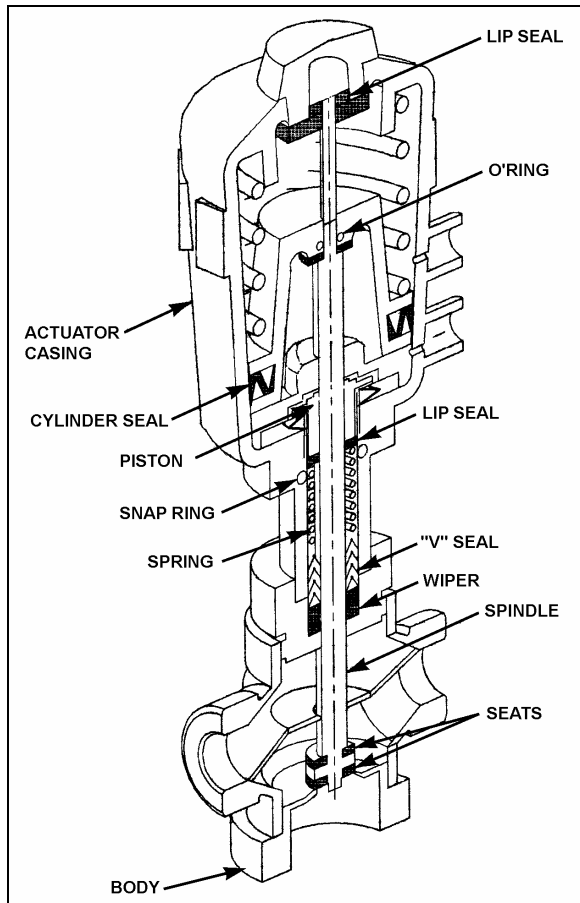

FIGURE 47: PNEUMATIC WATER VALVE
2. The water valve need not be removed from the line. Unscrew nipple, the actuator casing, tube, spindle and closure member can be removed (Fig. 47).